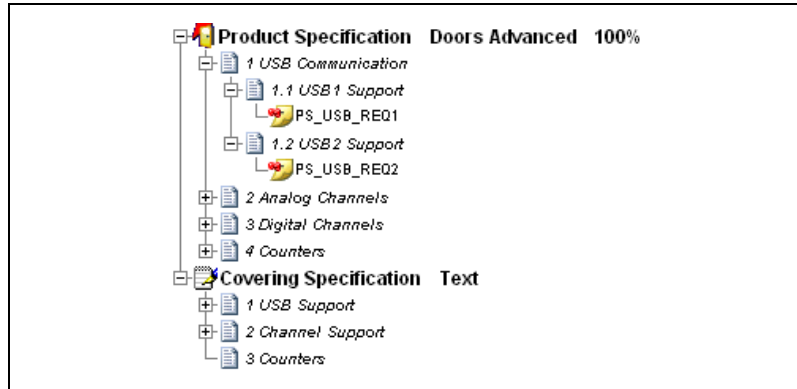

Figure 10-6. DOORS Document Expanded in the Management View
14. Expand the two documents in the Management View, as shown in Figure 10-6.